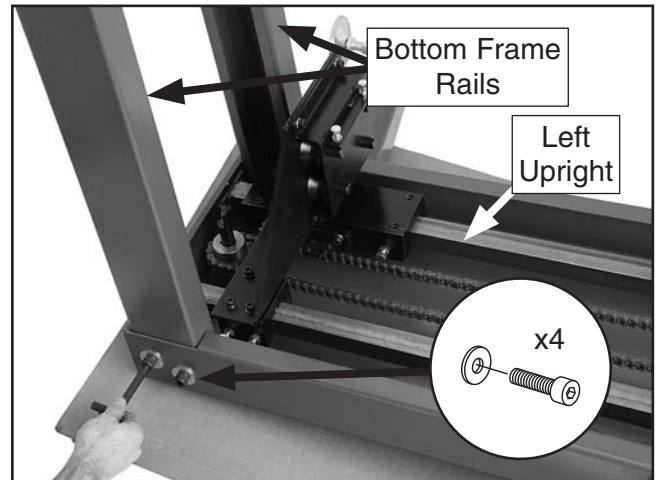

Figure 12. Second upright assembly.
3. Lay the left upright on a piece of cardboard, as shown in **Figure 12**. Attach the two bottom frame rails with (4) $\frac{3}{8}$ "-16 x $\frac{3}{4}$ " cap screws and (4) $\frac{3}{8}$ " flat washers.